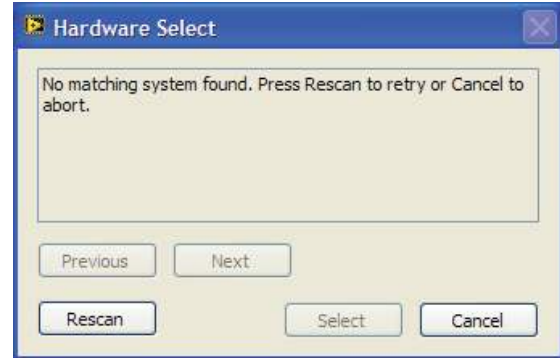

Figure 7. Pop-Up Window Error
2. If the SDP board is not connected to the USB port when the software is launched, a connectivity error displays (see Figure 7). Simply connect the evaluation board to the USB port of the PC, wait a few seconds, click **Rescan**, and follow the instructions.